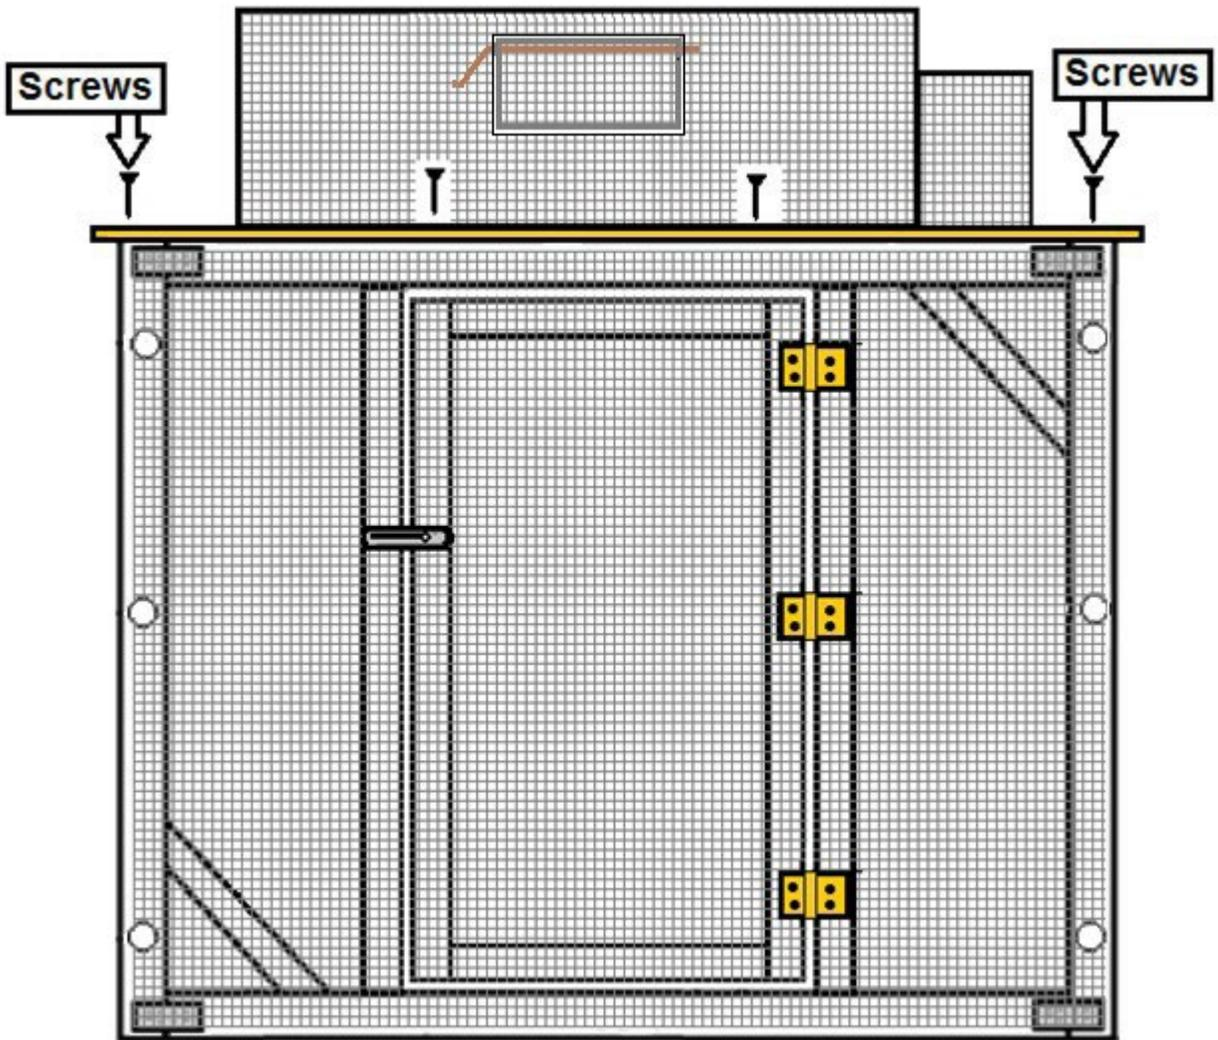

Figure 2-13
4. Mount trap onto cage with 2" decking screws and trap is complete (Figure 2-13).